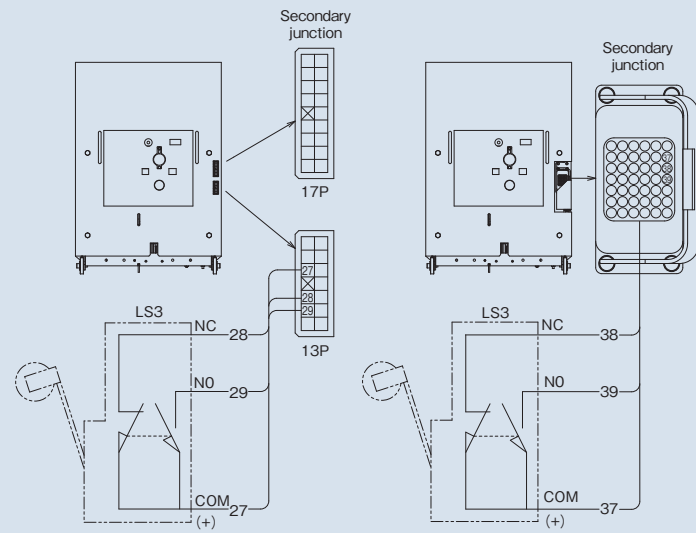

Fig. 71 Wiring diagram
- Fig. 71 shows a closed spring in a discharged state.